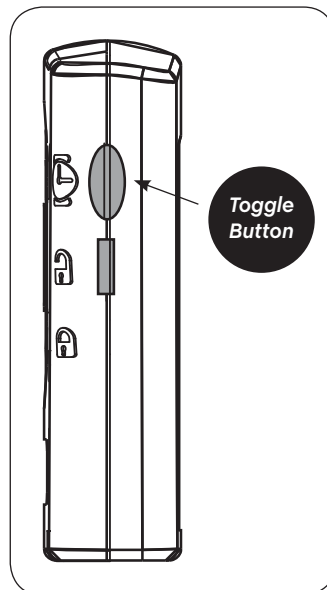

figure 7B: Check Device Charge
B. Check to make sure the Power Controller holds enough charge to provide the desired duration of treatment. Press the *Toggle Button* on the sam Power Controller to view the battery indicator lights (Figure 7B). The lights will illuminate to show how much battery life is remaining in the device. If the device is not fully charged it may not be able to deliver treatment for 4 hours. The device will only permit the user to set a treatment duration for which the battery charge is capable of fulfilling.